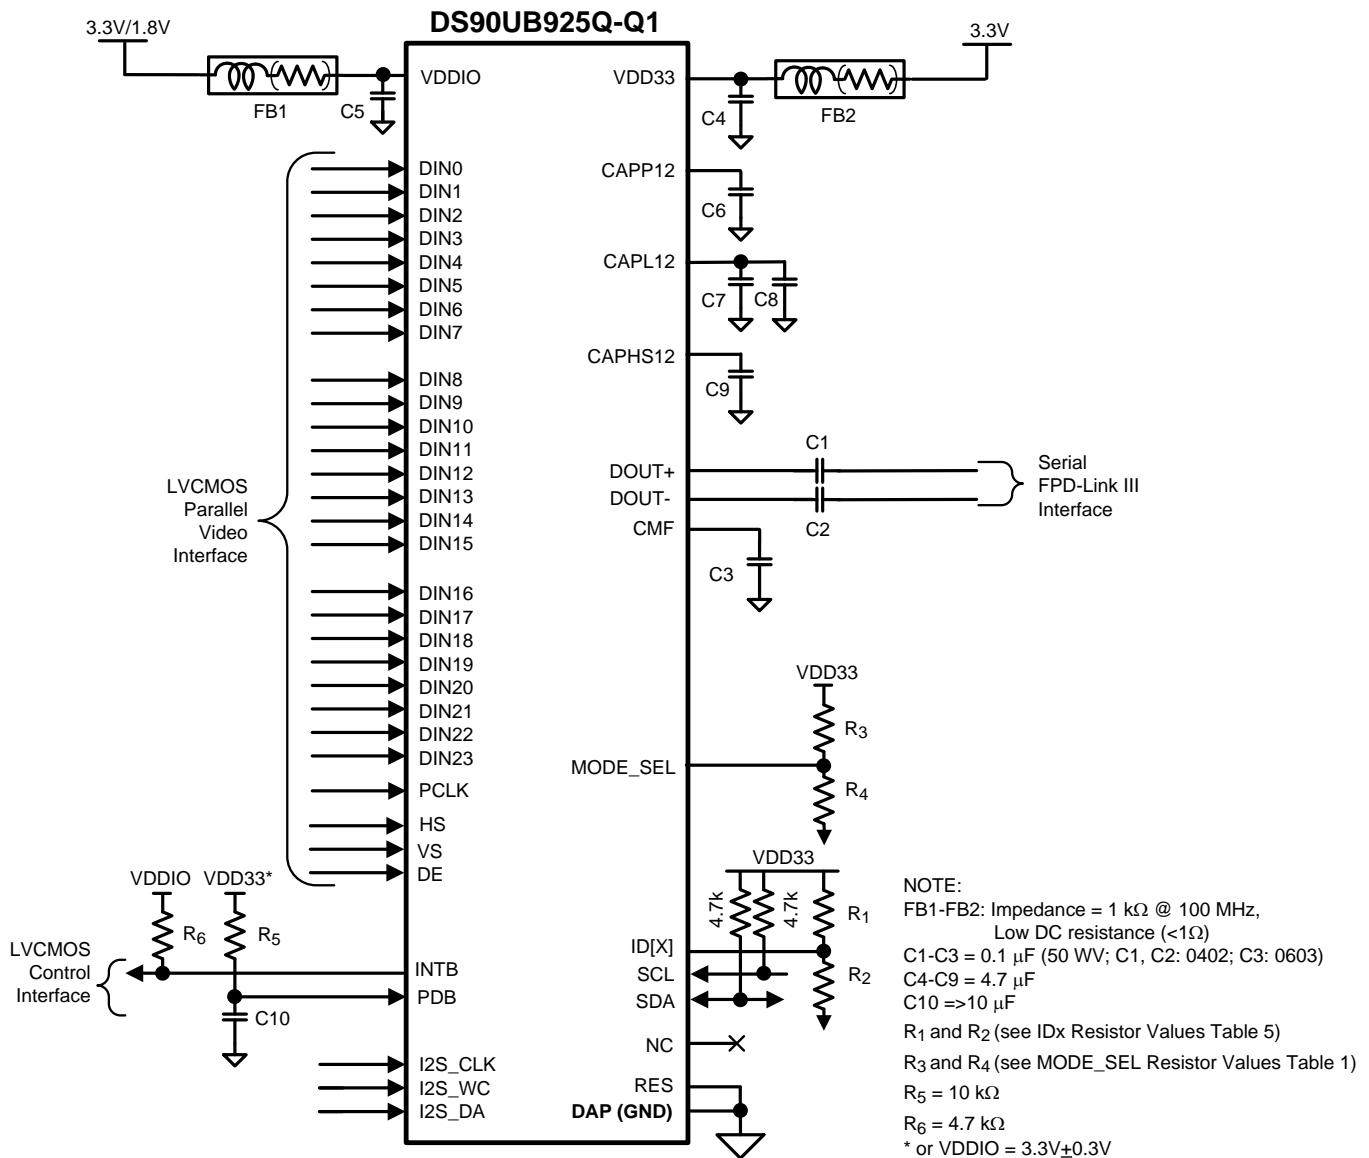

Figure 23. Typical Connection Diagram
Figure 23 shows a typical application of the DS90UB925Q-Q1 serializer for an 85 MHz 24-bit Color Display Application. The camera application has the same recommended connections. The CML outputs must have an external 0.1 μF AC coupling capacitor on the high speed serial lines. The serializer has an internal termination. Bypass capacitors are placed near the power supply pins. At a minimum, six (6) 4.7 μF capacitors and two (2) additional 1 μF capacitors should be used for local device bypassing. Ferrite beads are placed on the two (2) VDDs ($V_{\text{DD}33}$ and V_{DDIO}) for effective noise suppression. The interface to the graphics source is with 3.3V LVCMOS levels, thus the V_{DDIO} pin is connected to the 3.3 V rail. A RC delay is placed on the PDB signal to delay the enabling of the device until power is stable.